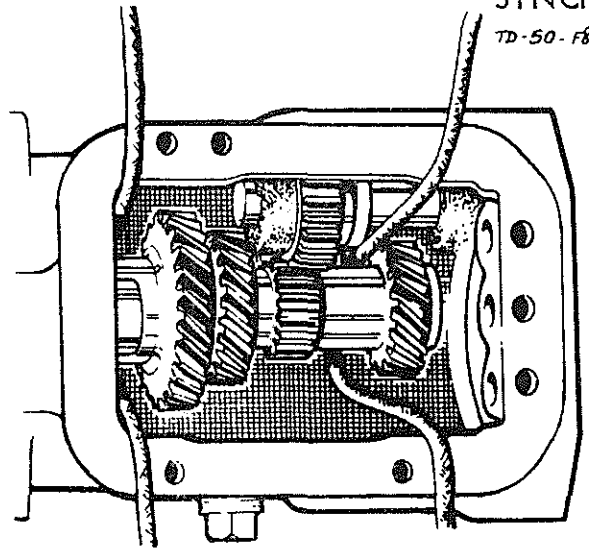

Fig. 8. FITTING COUNTERSHAFT
21. Position the countershaft gear in the bottom of the gearbox casing, taking care not to displace the thrust washers. A piece of string fitted under either end of the countershaft gear at this stage will facilitate assembly later. See Fig. 8.